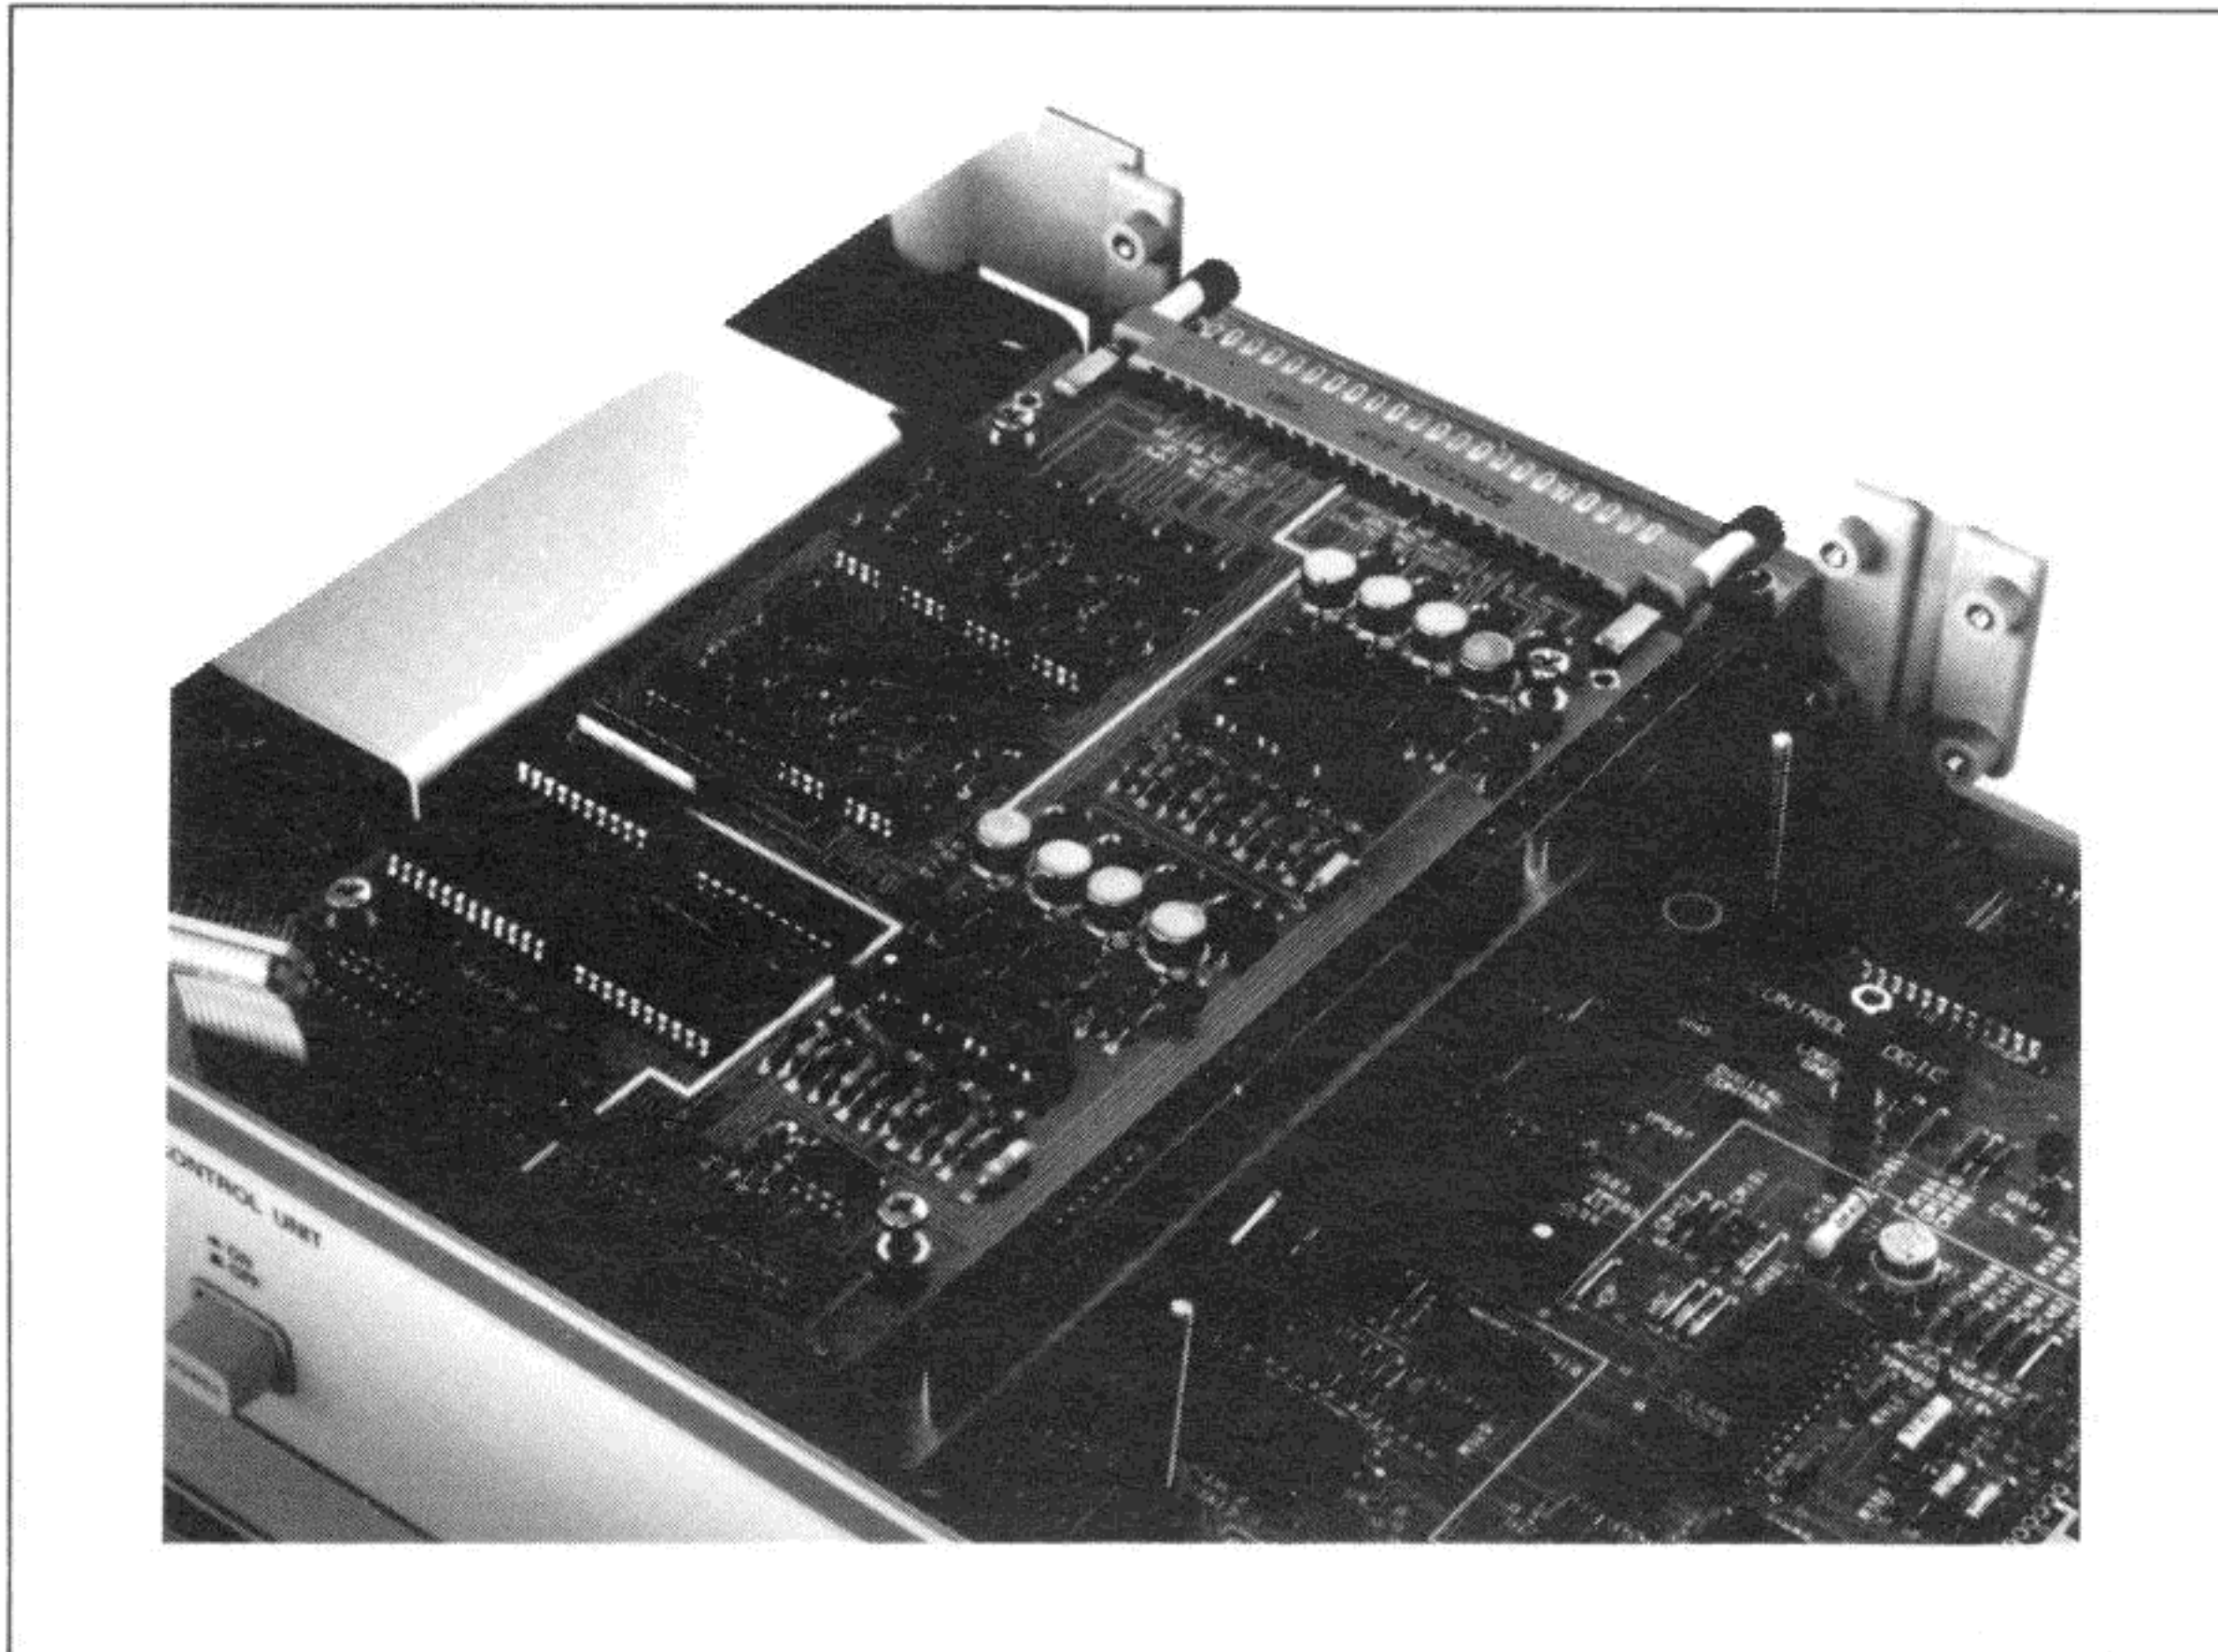

Figure 1-8-14. Set HP-IB and Slot 2 Options in Place
f. Refer to Figure 1-8-14 and set the HP-IB and slot 2 options in place. The HP-IB option should be placed component side down and the slot 2 option component side up. Then put the four long screws in place. Do not tighten the screws at this time.